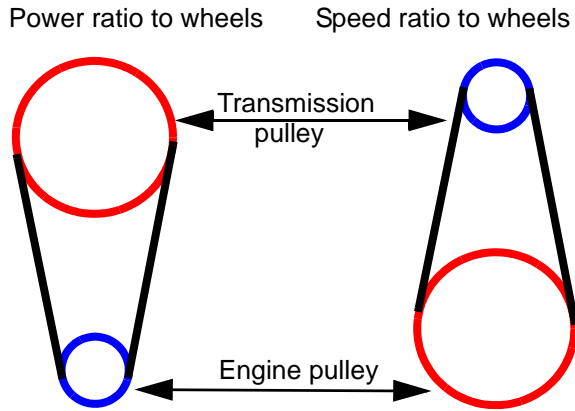

Figure 5.4
7. The driven pulley (transmission) reaction is opposite of the driving (engine) pulley. As a given linear belt speed is applied to an effectively smaller pulley, the drive ratio shifts in the direction of increased speed. See Figure 5.4.